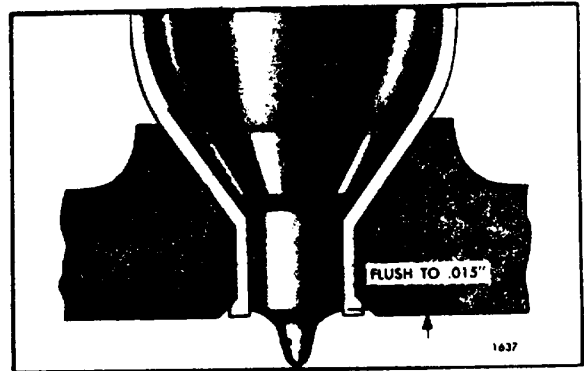

Fig. 6. - Checking Location of Injector Spray Tip Relative to Lower Surface of Cylinder Head
installed in the tube and the relationship between the numbered surface of the spray tip to the fire deck of the cylinder head noted (Fig. 6.).
- d. Remove the chips from the injector tube and, using an injector as a gage, continue the reaming operation until the shoulder of the spray tip is flush to .015" recessed in the cylinder head as shown in Fig. 6. Then, wash the interior of the injector tube with trichloroethylene or clean fuel oil and dry it with compressed air.